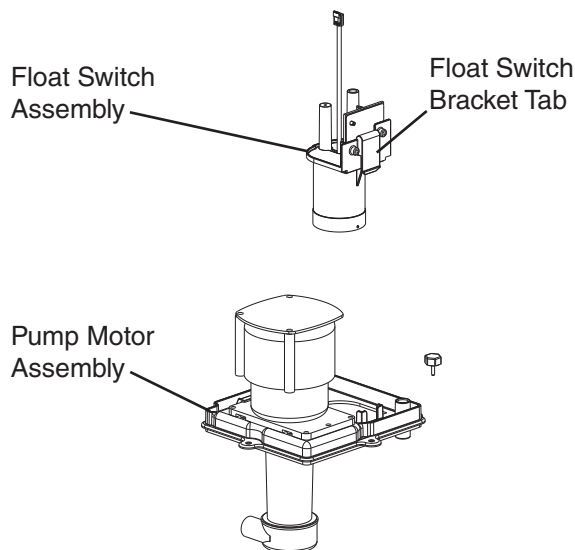

Fig. 7
- 4) Remove the pump motor assembly, then push in the tab on the float switch bracket to release the float switch assembly from the pump motor assembly. See Fig. 7.